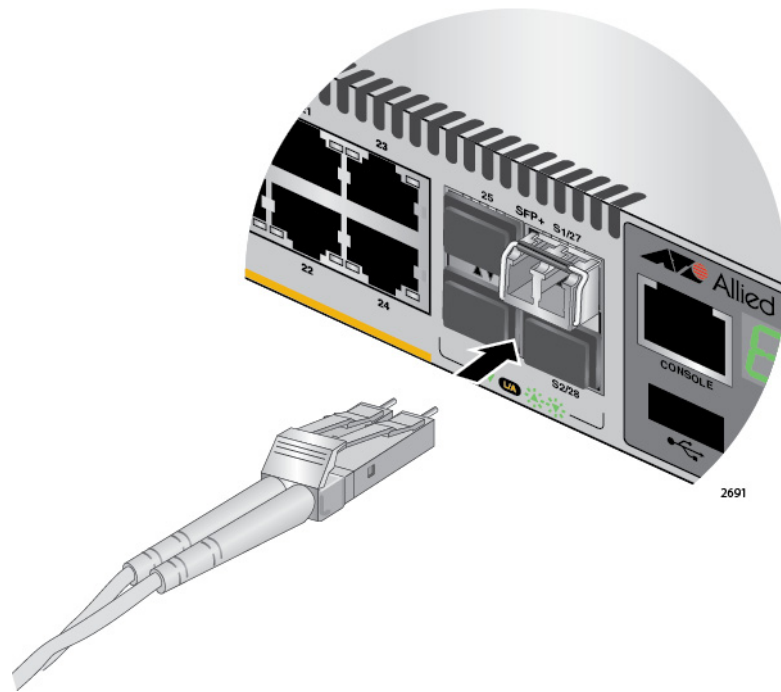

Figure 58. Connecting the Fiber Optic Cable to the Stacking Transceiver
6. Connect the fiber optic cable to the transceiver, as shown in Figure 58 on page 102. The connector on the cable should fit snugly into the port, and the tab should lock the connector into place.